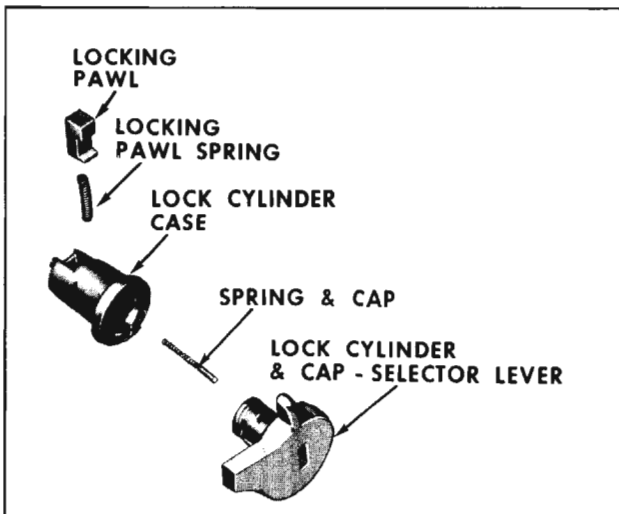

Fig. 16-197 Lock Cylinder and Case
3. Insert a piece of wire (paper clip) in hole on face of lock cylinder cap. While holding lock cylinder case, depress plunger with wire sufficiently to allow key and selector lever to be turned counterclockwise approximately 1/8 turn; then, remove lock cylinder and cap assembly and detent spring from handle assembly. (Fig. 16-197)
NOTE: When removing lock cylinder and cap assembly from case, place finger over locking pawl to prevent pawl and spring from popping out. (Fig. 16-197)